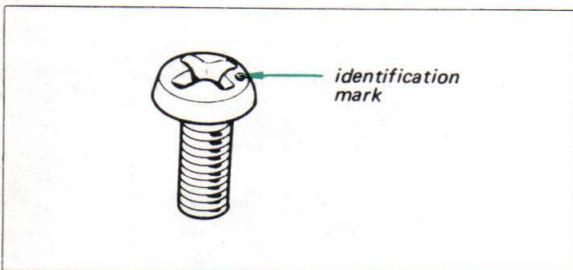

Fig. 2-1. ISO screw
**Note:** All screws in the STR-6055 are manufactured to the specifications of the International Organization for Standardization (ISO). This means that the new and old screws are not interchangeable because ISO screws have a different number of threads per mm compared to the old ones. The ISO screws have an identification mark on their heads as shown in Fig. 2-1.